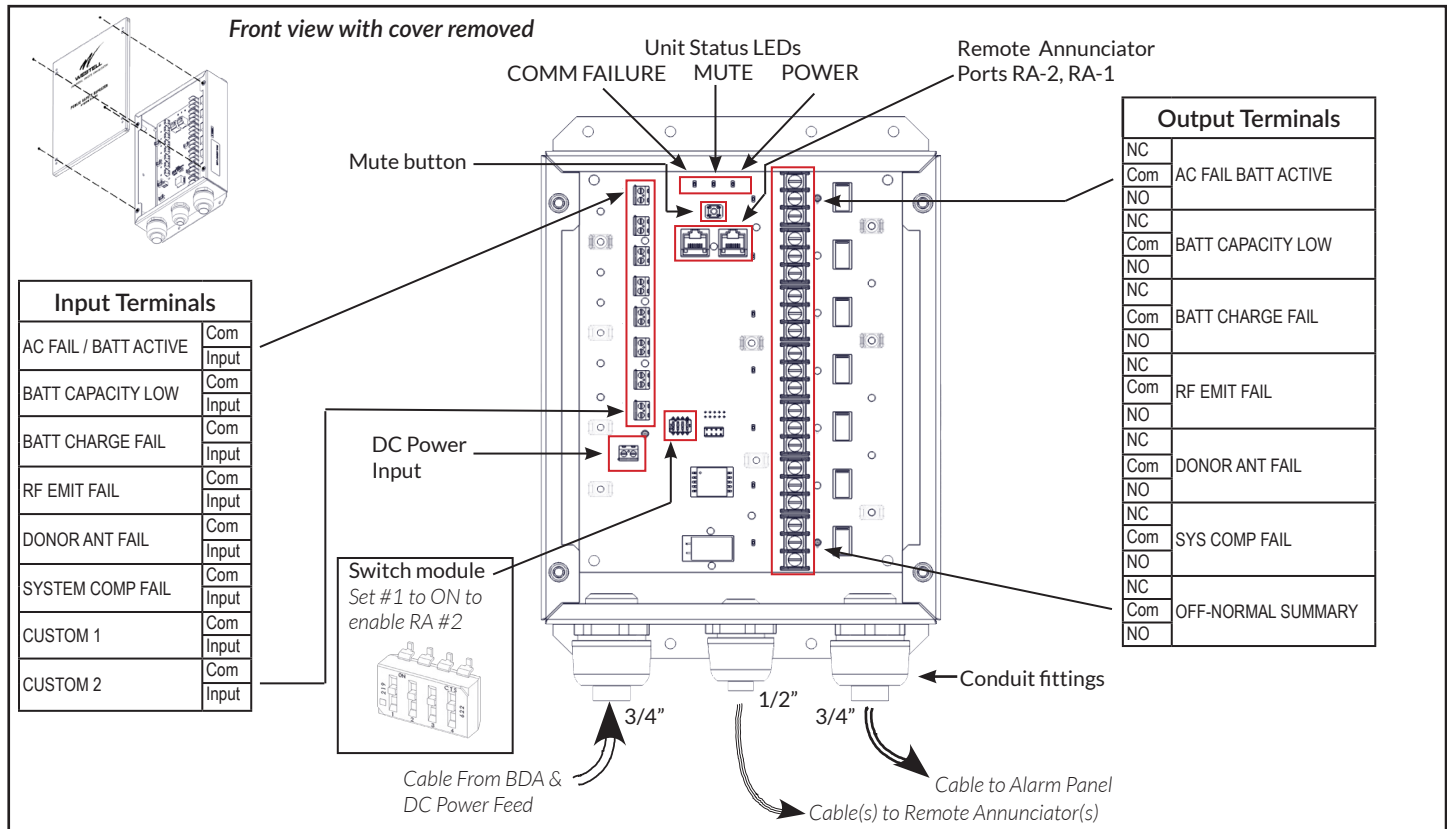

Figure 2. URA Interface Unit Interior Features
- D. Route the cable through flexible conduit and into the 3/4" port on the left side of the bottom of the URA interface unit. (See Figure 2)
- C. Use a small slotted screwdriver to connect alarm wire pairs to the output terminals shown on the right in Figure 2 above.
Connect a CAT5 or CAT6 cable long enough to reach the Remote Annunciator fixture in the Fire Control room (or other desired location) to the URA interface unit's RJ45 port labeled RA-1 (see Figure 2). If a second Remote Annunciator will be used, connect a second cable to the RJ45 port labeled RA-2. Route each cable out the 1/2" conduit fitting in the center of the interface unit floor.
At lower left center of the URA interface unit circuit board is a switch module with four switches (see Figure 2). The leftmost of these switches is labeled RA 2 Enable. This switch enables or disables monitoring of the communication link RA2. With the switch in the off position RA2 is not operational.